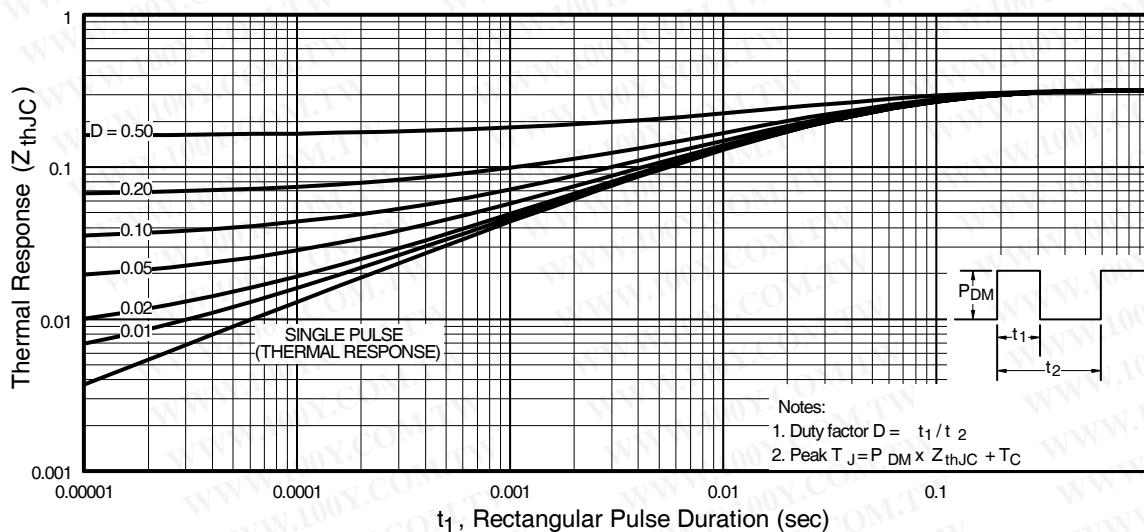

Fig 11. Maximum Effective Transient Thermal Impedance, Junction-to-Case
- ① Repetitive rating; pulse width limited by max. junction temperature. (See fig. 11).
- ② Starting $T_J = 25^\circ\text{C}$, $L = 0.25\text{mH}$
- $Z_{thJC}(D, t_{av})$ = Transient thermal resistance, see figure 11